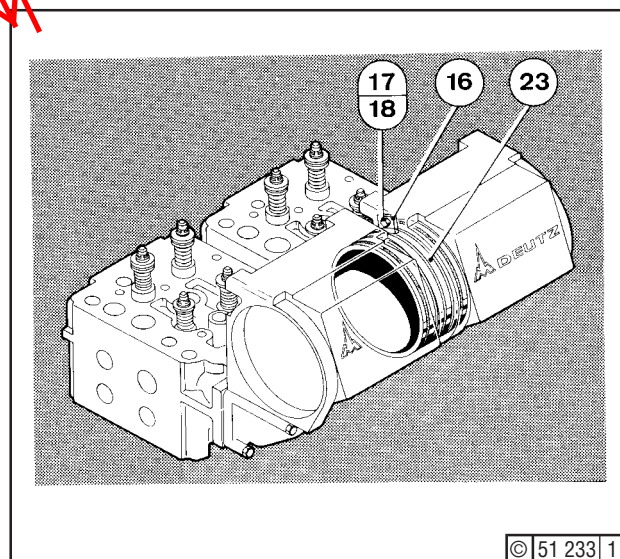

Fig. 4
Push sliding pieces (23) - Fig. 4 - of charge air pipe into their appropriate position. Fit lateral locking pieces (16) and tighten by bolt (18) with lockwasher (17).